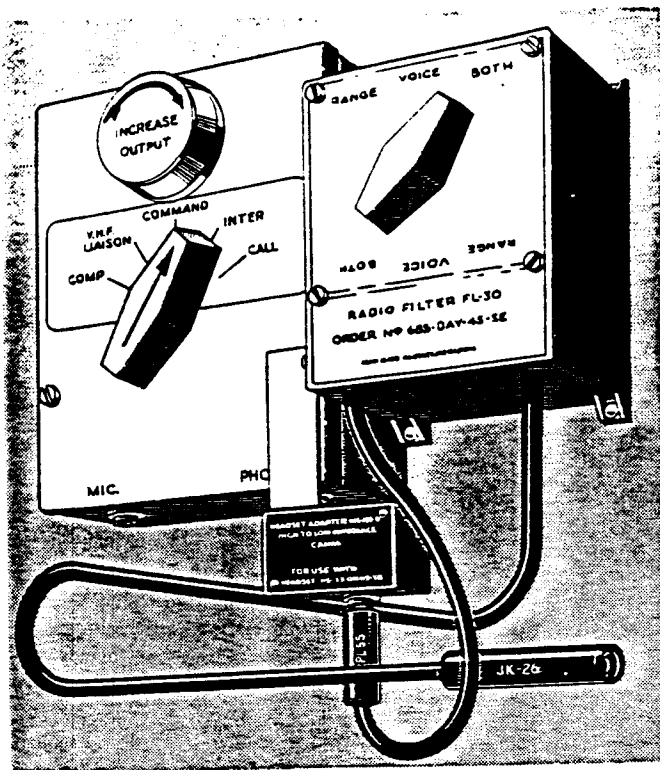
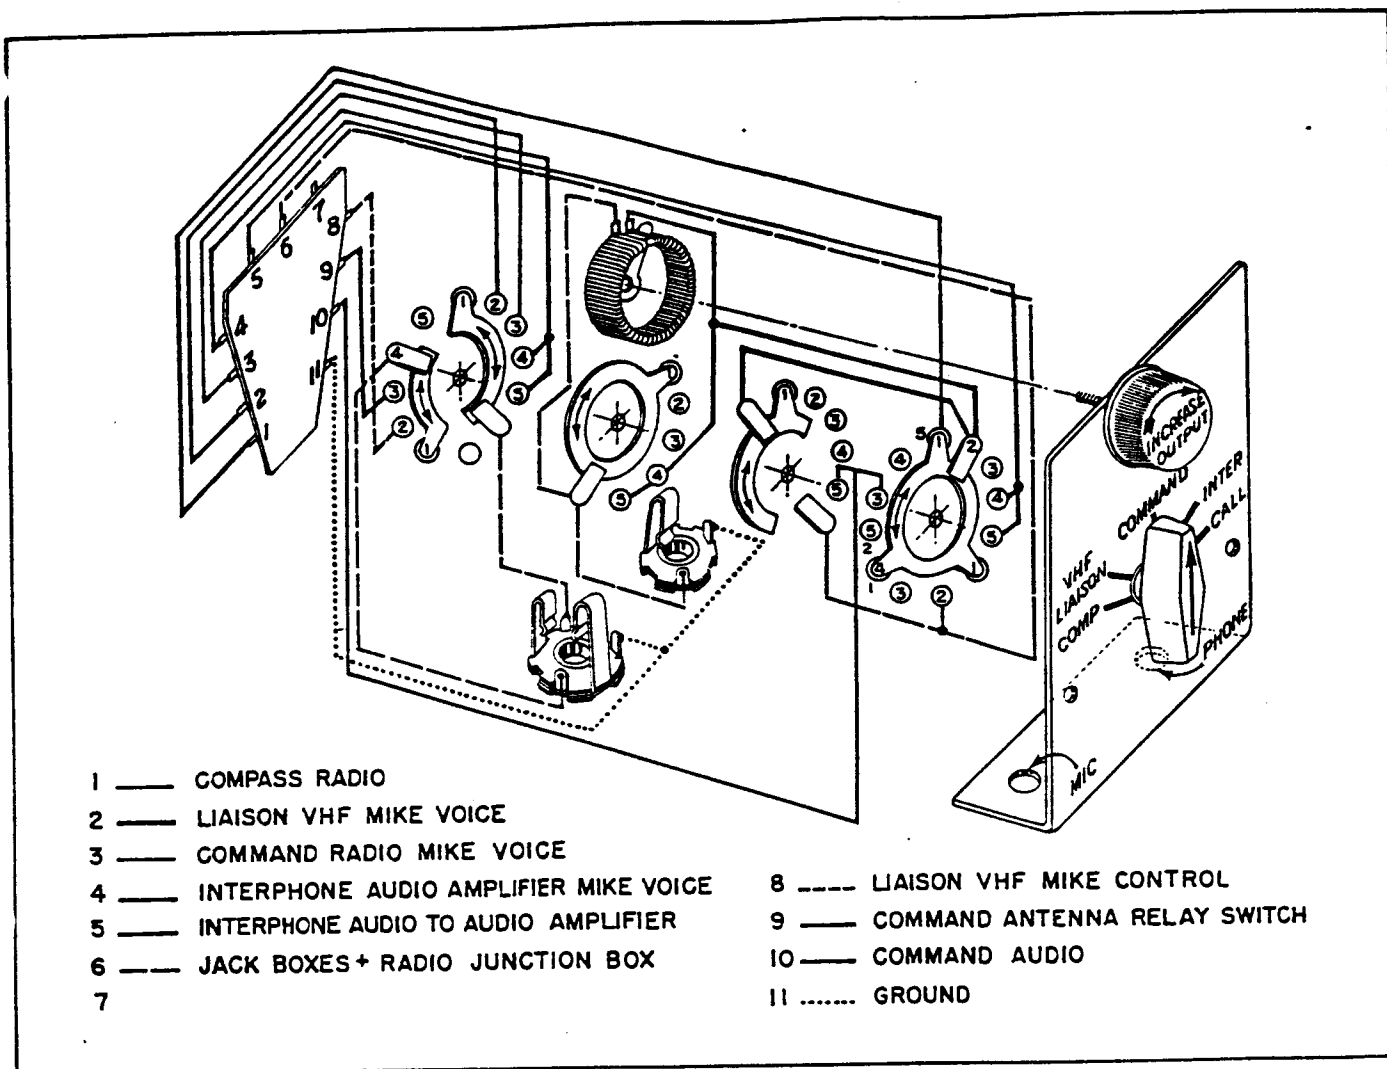

Figure 4. Interphone Jack Box, Filter, and Relay Box
Figure 5. Interphone Jack Box Selector Switch Wiring Diagram
3. JACK BOX OPERATION. (See figure 4.) - Place the "SELECTOR SWITCH" in the position indicated for the facility desired.
a. RADIO COMPASS. (See figure 4.)- To receive the audio output of the Radio Compass place the jack box selector switch in the "COMP" position. In this position terminal post No. 1, figure 5, of the jack box, the Radio Compass Audio circuit, is completed through the variable resistance (controlled by the "INCREASE OUTPUT" knob) to the head-set jack.
c. COMMAND RADIO. (See figure 1.)- To receive the audio output and connect the microphone and headset to the "COMMAND RADIO" place the jack box selector switch in the "COMMAND" position. See figure 4. When the selector switch is in this position, see figure 5, it completes the Command Radio Audio circuit from terminal post 10 to the head set through the variable resistance and phone jack. It completes the command transmitter circuit from terminal post 3 through the microphone jack to the microphone "PRESS-TO-TALK" switch and completes the antenna relay circuit from terminal post 9 through the microphone jack to a second contact on the "PRESS-TO-TALK" switch. When the "PRESS-TO-TALK" switch is pressed it completes the microphone circuit and the antenna relay circuit, the latter disconnects the antenna from the receivers and connects it to the transmitters.
d. INTERPHONE. (See figure 4.)- To use the intra airplane telephone equipment place the selector switch in the "INTER" position. When the selector switch is in this position, see figure 5, it completes the "Interphone Amplifier" circuit from the terminal post 5 directly to the head set through the phone jack without going through the variable resistance. (The "Increase Output" control does not function for the intra telephone.) The microphone circuit from terminal post 4 is completed through the microphone jack to the microphone switch. When the microphone switch is pressed the circuit is completed to the microphone.
e. CALL. (See figure 4.)- To use the "CALL" facility place the selector switch in the "CALL" position and hold it there. (In this position the selector switch is spring loaded and will return to "INTER" when released.) When the selector switch is in the "CALL" position the "Inter Telephone" facilities are available and through terminal post 4, see figure 5, when the "PRESS-TO-TALK" switch is pressed the voice from the calling station is heard in all headsets regardless of the position of the other selector switches, except that the navigator's, engineer's and the four bunk stations cannot be contacted should their selector switches be in the V.H.F. Liaison position for this facility is not wired to these jack boxes in this airplane.